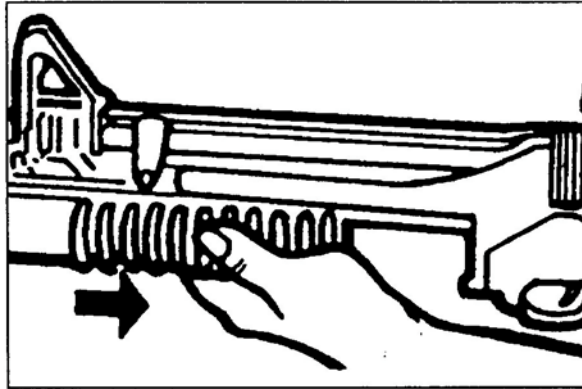

Figure 8. Locking the M203 barrel.
- b. Move the barrel rearward to lock (Figure 8).